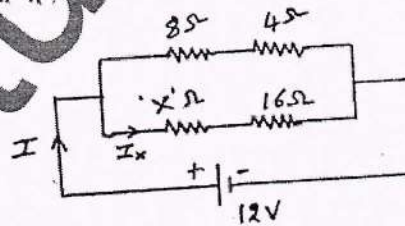

Fig Q2(c)
e) If the total power dissipated in the circuit Fig Q2(c), show below is 18W. Calculate the value of unknown resistance 'X' in ohms and the current flowing through it  $I_x$  6M